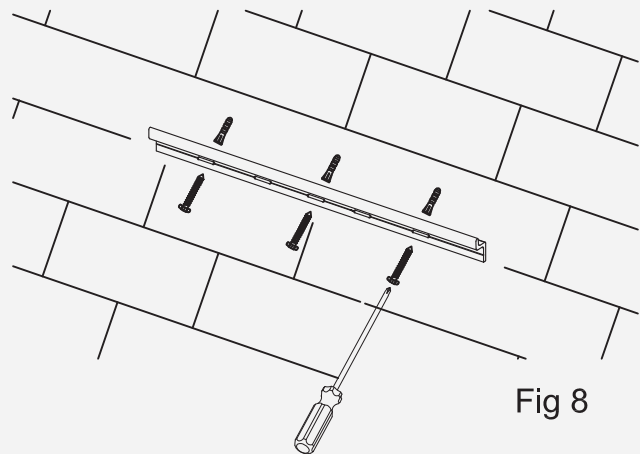

Fig 8
3. Drill 8 mm hole if required for wall anchor and place wall anchor in hole. Mount wall bracket with #10 x 1 1/2" screws. (Fig 8)